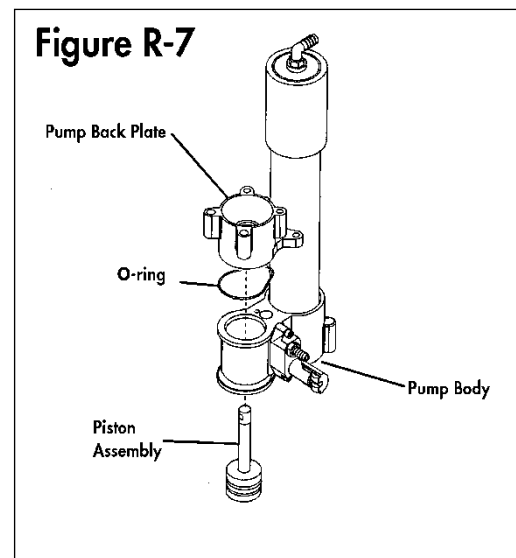

Figure R-7
3. Lightly lubricate the cylinder in the pump body with silicone grease. Slide the finished piston assembly, shaft first, into the pump body from the side of the pump body that faces the check valve plate. Install the large O-ring (8012588) into the groove in the pump back plate and lower the pump back plate over the piston shaft. The side of the back plate with the large O-ring should be facing the pump body. See **Figure R-7**.